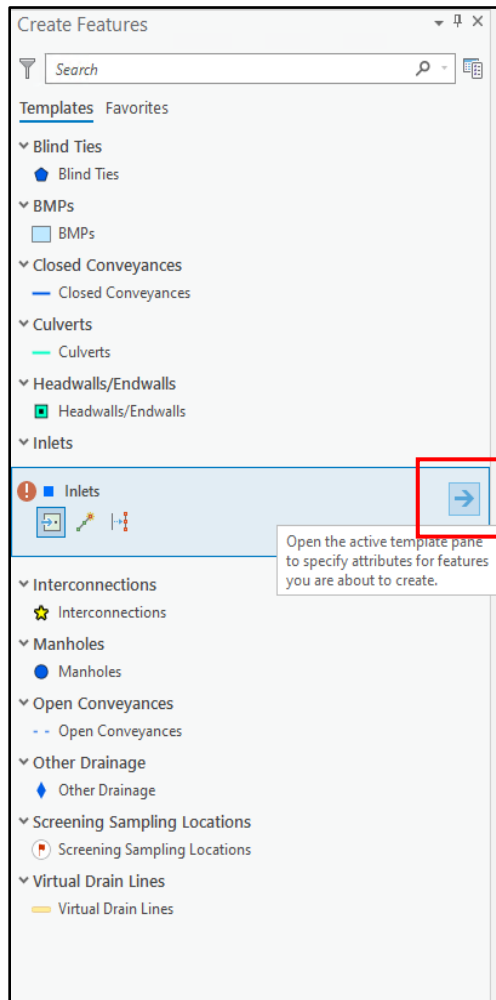

Figure 36. Open Active Template Pane in ArcGIS Pro.
5. Before drawing the feature, populate attributes via the Active Template Pane. Click the arrow on the right-hand side of the box for the selected Feature Class to open the Active Template Pane (Figure 36, below).